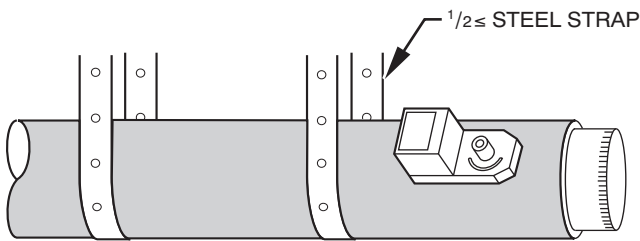

Fig. 2 - Insulated Round Metal Duct Work
4. If dampers are applied in an unconditioned space, insulate them using 1-1/2 inch to 2 inch insulation (See Fig. 2).